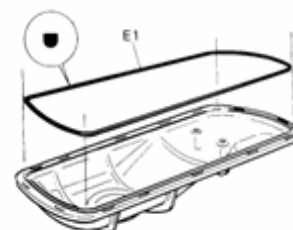

Fig. 27
13. Wash the bowl lid cap (fig.27), the bowl and its cover carefully with water and washing-up liquid, rinse them well, and proceed to remount them, making sure the sealing strip E1 is positioned correctly between the cover and the bowl. To guarantee the seal, the rounded part of the said sealing strip (as shown in fig.27) must be facing the cover.